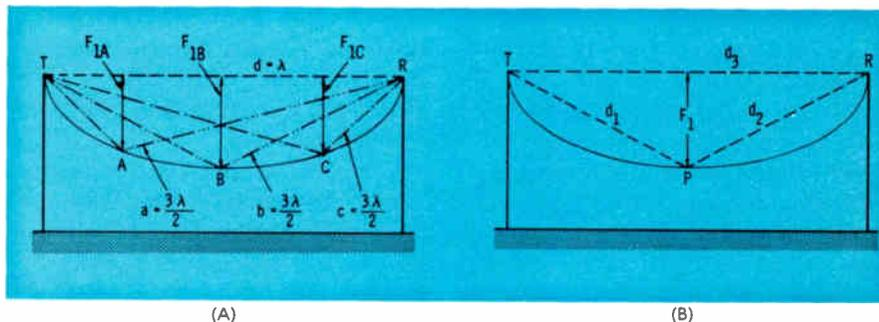

Fig. 2. Fresnel zones determine required path clearances around obstacles.
at each point along the path. This clearance is normally equal to the first fresnel zone radius. A fresnel zone may be defined as an imaginary curved surface between a transmitting and a receiving antenna, signal reflection at any point on which will result in a reflected path length exactly one-half wave-length longer than the direct distance between the antennas. Fig. 2 (A) represents a hypothetical fresnel zone in which paths a, b, and c satisfy the electrical path length requirement. Zone boundaries may be calculated from the formula
The significance of the first fresnel zone is that a signal striking an obstacle at point P [Fig. 2 (B)] will be reversed in phase by  $180^\circ$  and theoretically will arrive at R in opposite phase at the receiving antenna, thereby cancelling the direct path signal. Since, however, the path length TPR is exactly one-half wave-length longer than TR, the signal will take  $180^\circ$  longer than the direct path, and the phase reversal suffered at point P will present a signal at R exactly in phase with the direct path. The consequence is that the received signal increases by 6 dB.